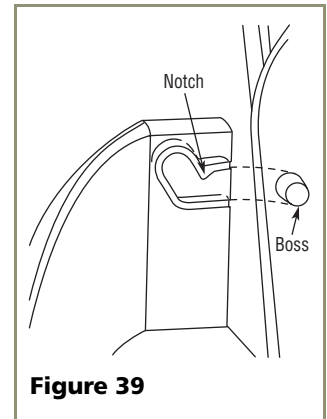

Figure 39
1. First pull shelf up at a 45° angle, then straight out (see **Figure 39**).